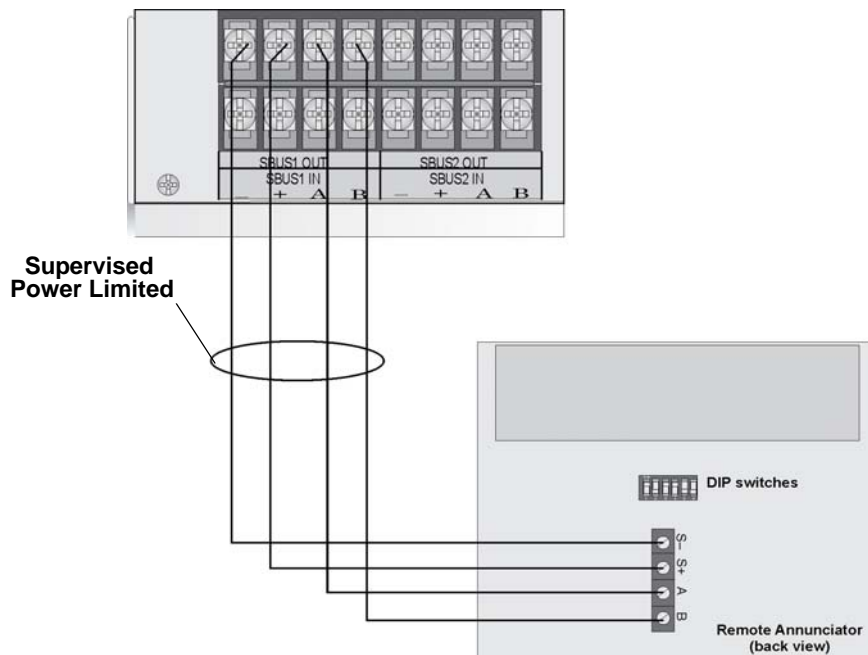

**Figure 4-15 Installing Trim Ring**
- Place the trim ring over the back box as shown in Figure 4-15.